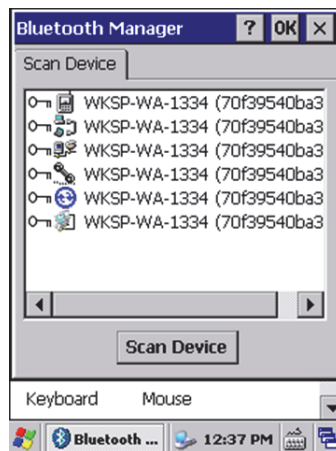

Figure G-8 Bluetooth® Manager
7. Tap the **Scan Device** button (see Figure G-8 on page 180).